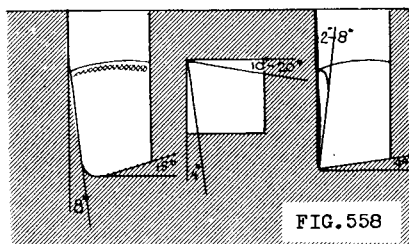

FIG. 558
3. Observe the shape, the angles, and the clearances of the left-cut tool as illustrated in Fig. 558. The angles and clearances are for tools whose bases are held at 90° to the surface being machined. In this case, the tool is held parallel to the base of the tool